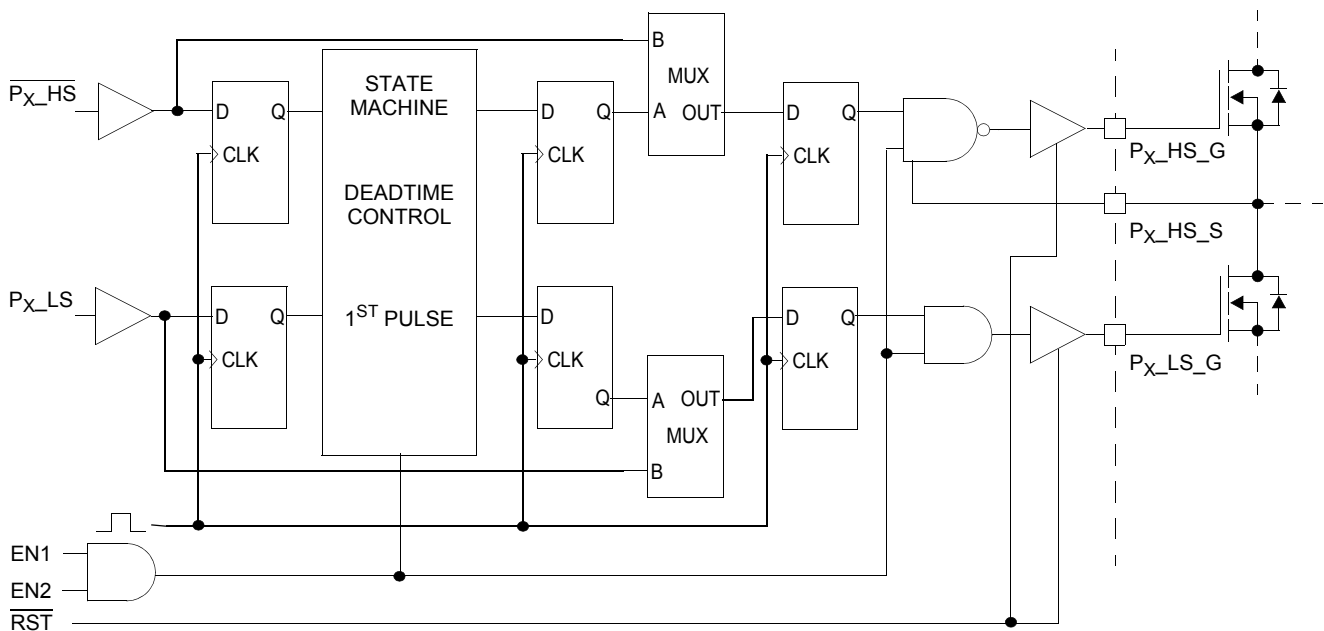

Figure 6. Deadtime Control Delays
40. These delays include all logic delays except deadtime. All internal logic is synchronous with the internal clock. The total delay includes one clock period for state machine decision block, an additional clock period for FULLON mux logic, input synchronization time and output driver propagation delay. Subtract one clock period for operation in FULLON mode which bypasses the state machine decision block. Synchronization time accounts for up to one clock period of variation. See Figure 6.